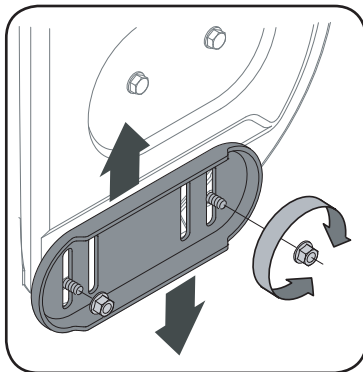

Figure 5-6 - Steel Reversible
**NOTE:** Some models are equipped with reversible skid shoes and may be turned over to increase their lifespan. See Figure 5-6 and 5-7.